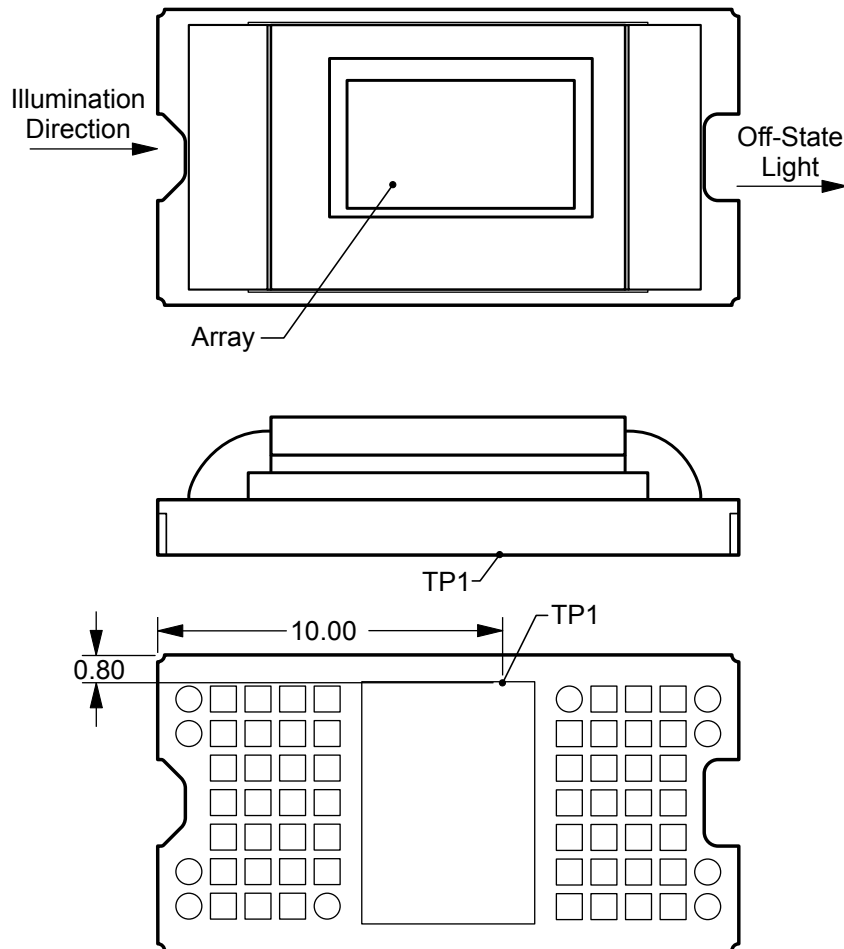

Figure 16. Thermocouple Location
Relationship between array temperature and the reference ceramic temperature (thermocouple location TP1 in Figure 16) is provided by the following equations.
- $T_{\text{CERAMIC}}$  = measured ceramic temperature (TP1 location in Figure 16) (°C)
- $S_{\text{L}}$  = measured screen lumens (lm) (2)